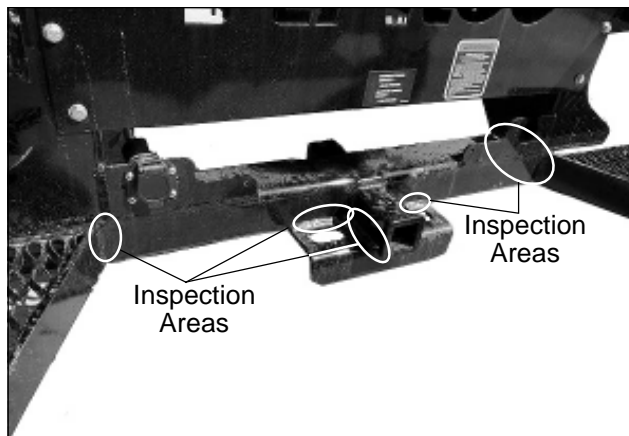

Figure 4 — Class V Inspection
7. **Class V Hitch:** Look at the welds at the corners and the receiver tube mounting on both sides of the tow weldment and the receiver tube (refer to Figure 4).